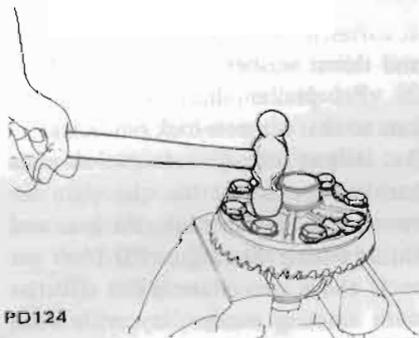

Fig. PD-12 Tapping bolt head
- Tighten bolts in criss-cross fashion lightly tapping around bolt heads with a hammer. See Figure PD-12.